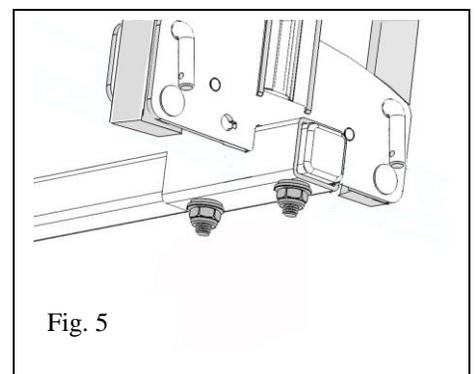

Fig. 5
5. Place the spacer onto the threaded portion of the bolt. Next, install and finger tighten the nut onto the bolt per Fig. 5. Finally tighten nuts securely and evenly using wrench.